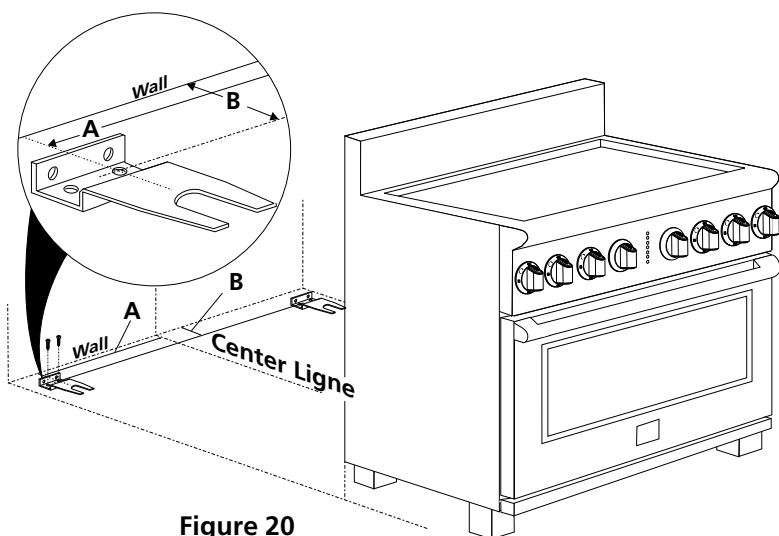

Figure 20
when installed. (Use the diagram in figure 20 to locate bracket if template is not available.)
5. Remove template and place bracket on floor (see figure 20). Line up holes in bracket with marks on floor and attach the bracket using the screws provided. Brackets must be secured to solid floor. If attaching to concrete floor, first drill 3/16" (4.8 mm) dia. pilot holes using a masonry drill bit.